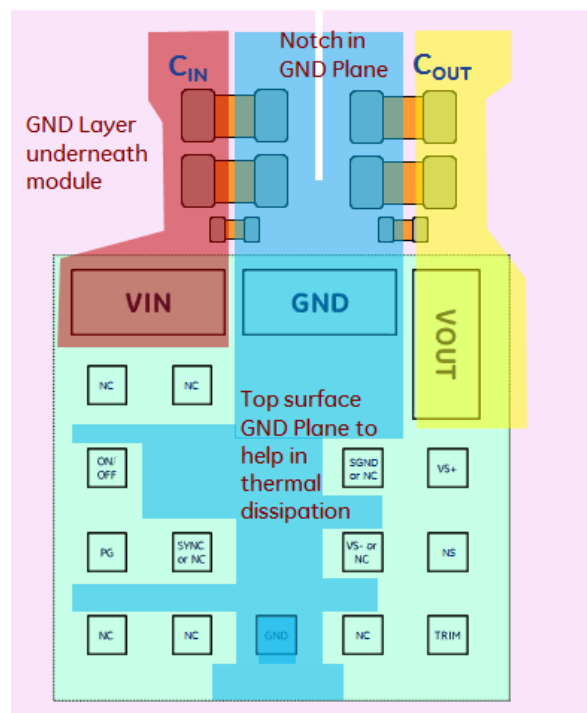

**Figure 7. Typical Application Circuit of the IND072 regulator.**
- **Minimize loop area** - To provide the most effective filtering and avoid noise coupling from a regulator to other parts of the circuit, it is recommended that the loop area for both power and signal traces to the regulator be minimized. To minimize input noise, it is necessary to reduce the parasitic inductance of the input loop significantly, by reducing the loop area. Using a high frequency, low ESR and ESL bypass capacitor, close to the regulator module input pins reduces the area of this loop significantly. Figure7 shows a typical application circuit incorporating these recommendations. For reducing high frequency switching noise at the input and output of the module, 0.047 $\mu\text{F}$  (0402), 0.1 $\mu\text{F}$  (0402), etc. small package ceramic capacitors (C11 and C01 in schematic) should be placed at the input and output of the module. Capacitors used for minimizing the ripple component (C12, C13, C02 & C03) are termed as bulk capacitors with capacitance needed being in the order of tens or hundreds of  $\mu\text{F}$ .